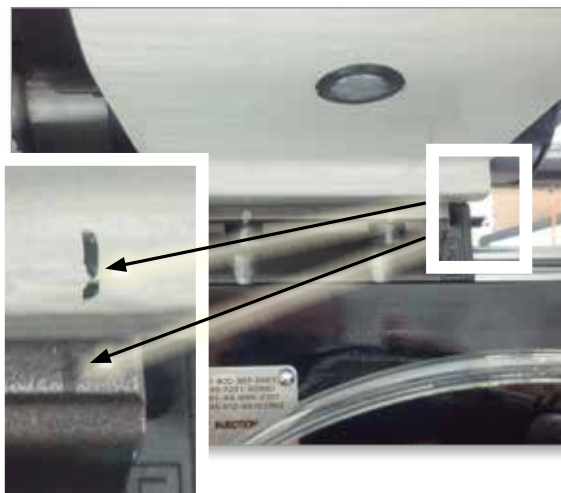

Figure 9-5 Linear guide position
18. Mark the position of the linear guide relative to the injection housing. See Figure 9-5.